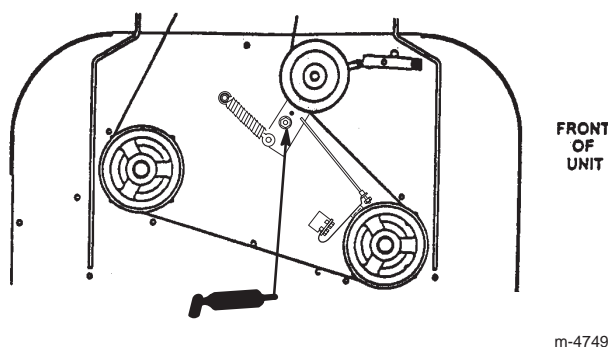

Figure 36
3. Lubricate the blade belt idler arm pivot (Fig. 36) after every 50 operating hours.